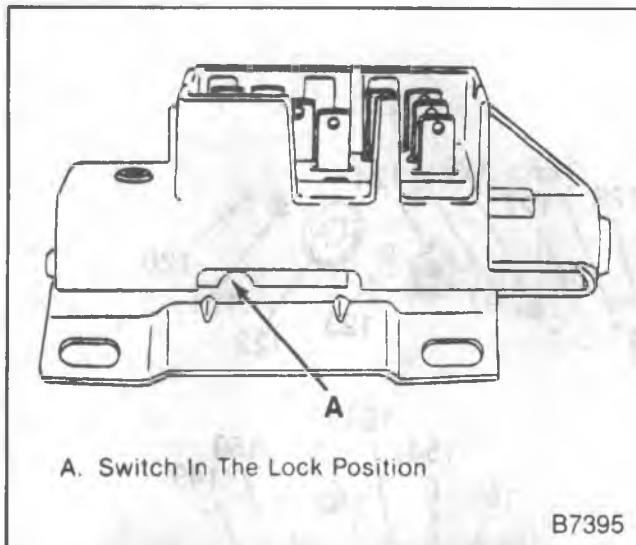

Figure 16—Ignition Switch Assembly
↔ Install or Connect (Figure 16)
- Put the ignition switch in the "LOCK" position (figure 16).